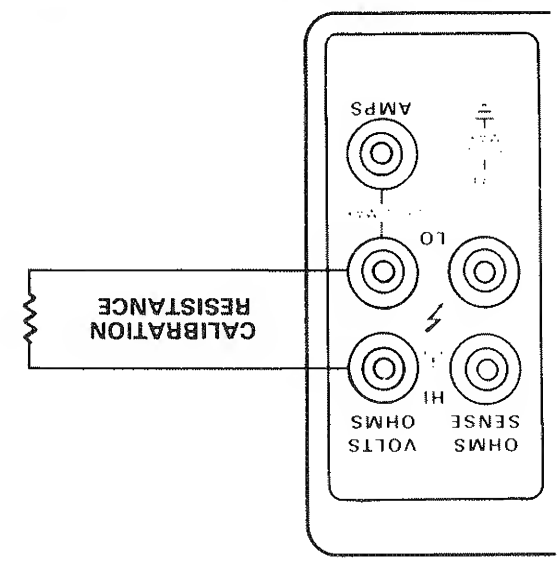

Figure 5-3. Connections for Verification of 20k Ω Through 20M Ω Ranges
6. Connect a 19k Ω calibration resistor to the instrument as shown in Figure 5-3. Note that the 2-terminal configuration may be used for measurements on the 20k Ω and higher ranges. Place the instrument on the 20k Ω range and compare the reading with the limits in Table 5-3.